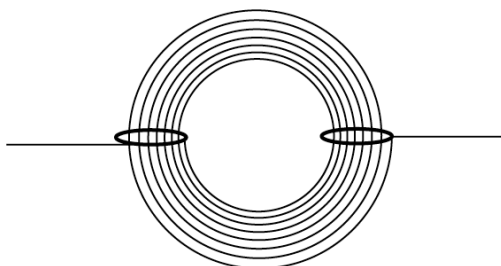

Figure 1. Copper coil with 8 windings made around a "C"-cell battery.
- Using a "D"-style battery, make several windings of enameled wire around the battery, leaving about 1.5" of wire exposed before you begin to wind the coil. Eight windings should be sufficient. Leave another 1.5" of wire exposed at the other end. Remove the wire from the battery and loop the excess wire around the coil as shown in figure 1.